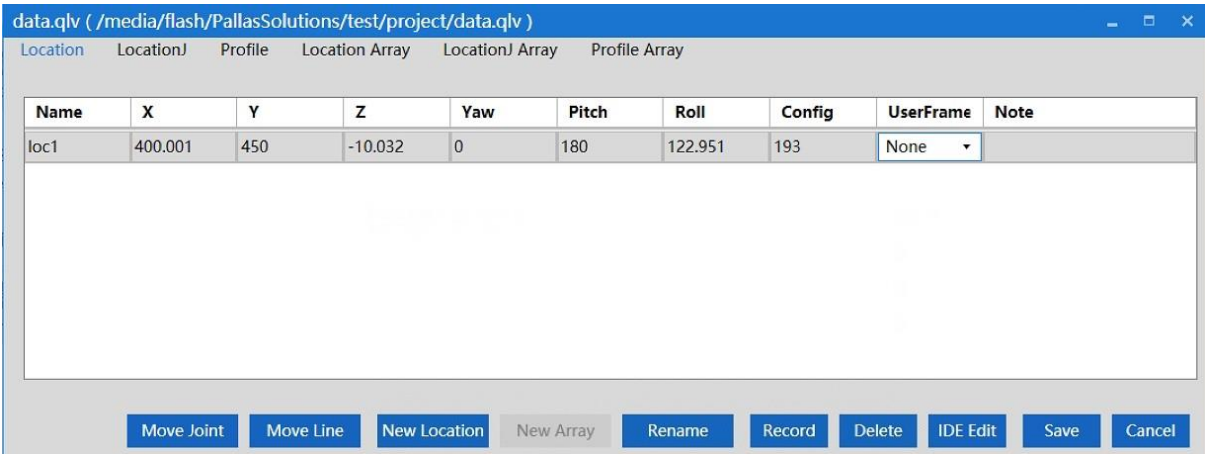

Figure 6-33 New Location
**Step 1** New Location; Click "New Location" in "Location", and the point information of the current robot's Cartesian position will appear in the interface. The point name is the default name, and you can click Rename to modify it, as shown in Figure 6-33.